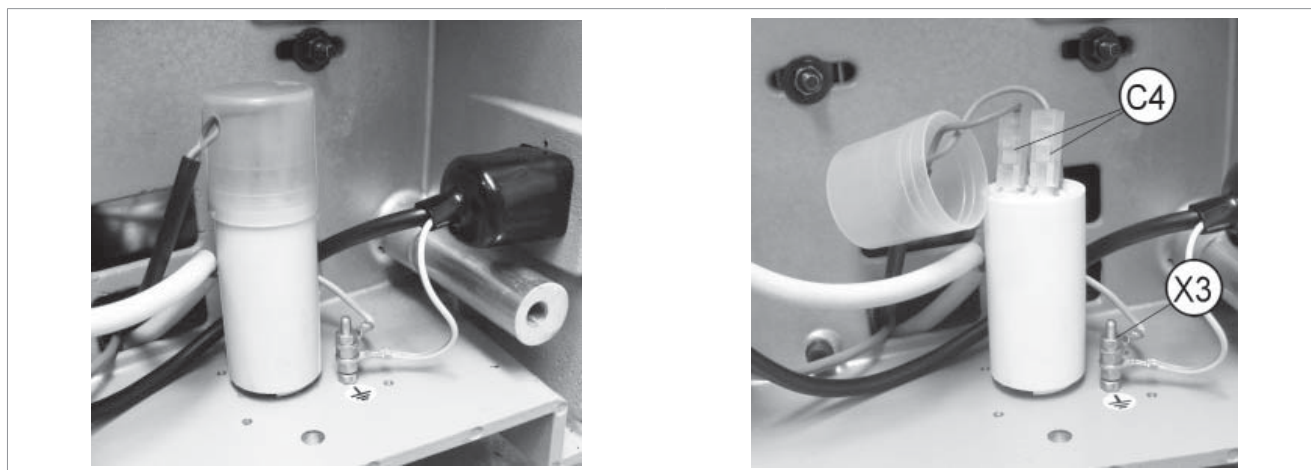

Fig.84
- 5) Raise the condenser cap and remove the 2 connectors (C4) (Fig.84).